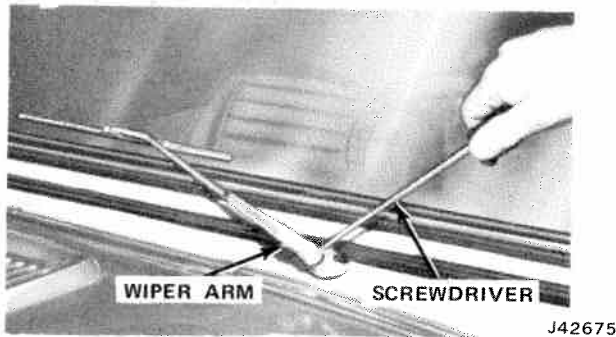

Fig. 17-10 Wiper Arm Removal
(1) To remove the windshield wiper arms from the pivot body shaft, first mark the pivot shaft and arm so that the wiper arm can be reinstalled in the same position, and then pry up carefully on the wiper arm as shown in figure 17-10.